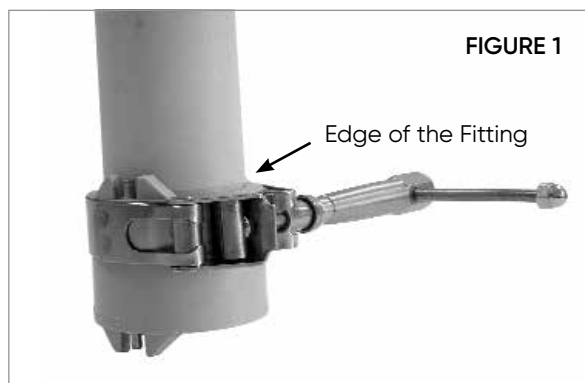

FIGURE 1
6. Loosely fit IPEX-supplied clamp(s) only over the hub(s) of the socket(s) to be fused (Figure 1).
**Note:** Each joint being fused must have an IPEX T-Bar clamp flush with the other edge of the socket as shown previously in Figure 1.